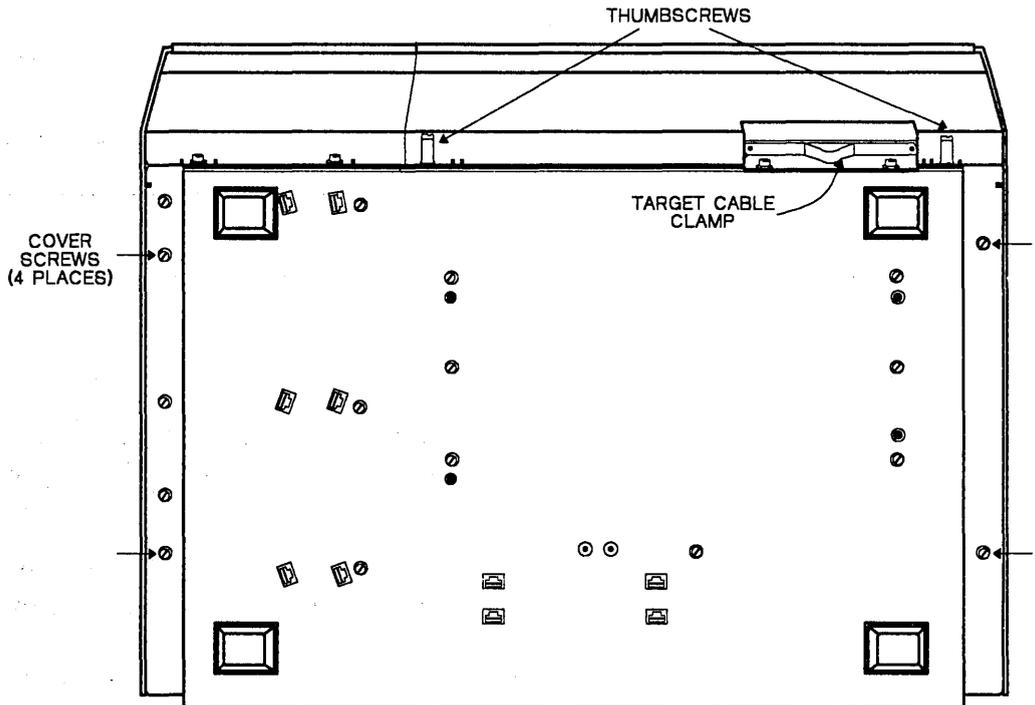

Figure 11-21. Top Cover Removal
- a) Set unit on its side and remove four 1/4" hexagonal-head screws marked in Figure 11-21 that hold top cover to cabinet base. Be sure to remove only the marked screws.